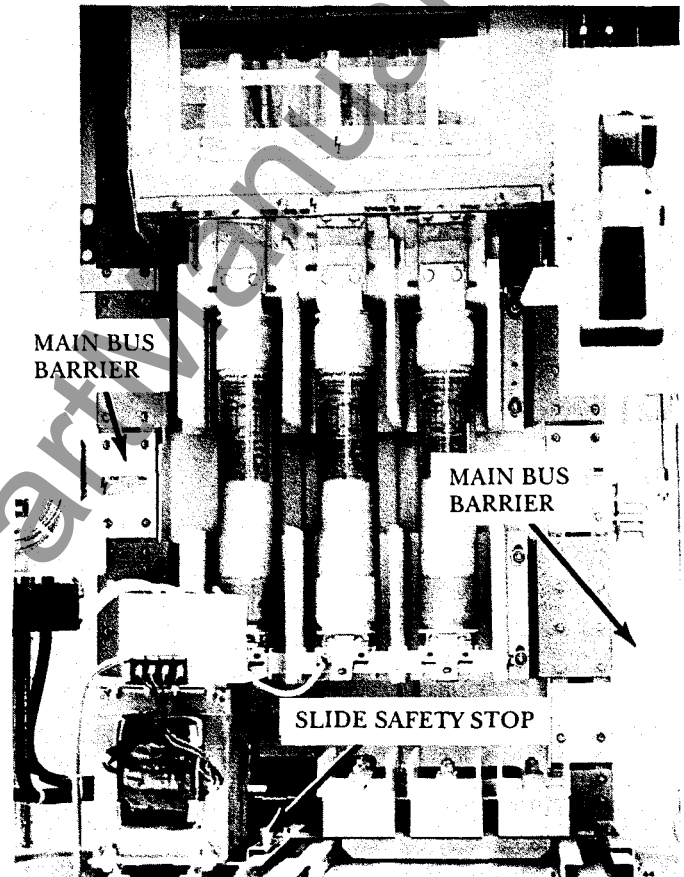

Figure 21. View of slide safety stop and main bus barriers with stationary contactor removed
Slide the contactor forward approximately four (4) inches until the slide safety stop engages in the plate that is attached to the bottom of the contactor. The safety stop is located on the left side of the contactor mounting track. Figure 21 shows the safety stop for a stationary contactor with the contactor removed for clarity.
Once the upper contactor has been removed, the side main bus barriers are accessible at the rear of the compartment. See Figure 21.